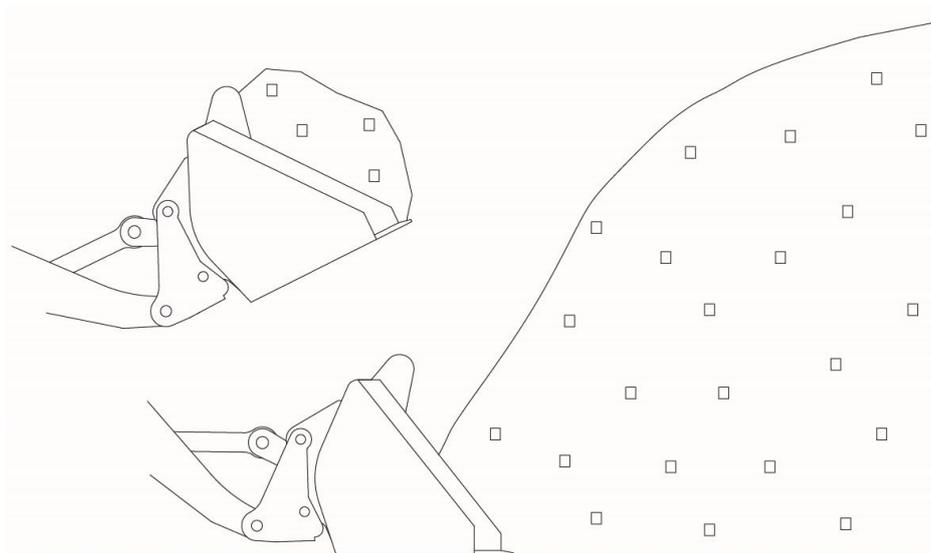

Figure 5-48 Loading operation(4)
Step 6: When there is enough material in the bucket, control the handle to collect the bucket to fill the material. If there is too much material in the bucket, the bucket should be quickly tilted and collected to remove excess material to prevent material falling down when walking, as shown in Figure 5-48;